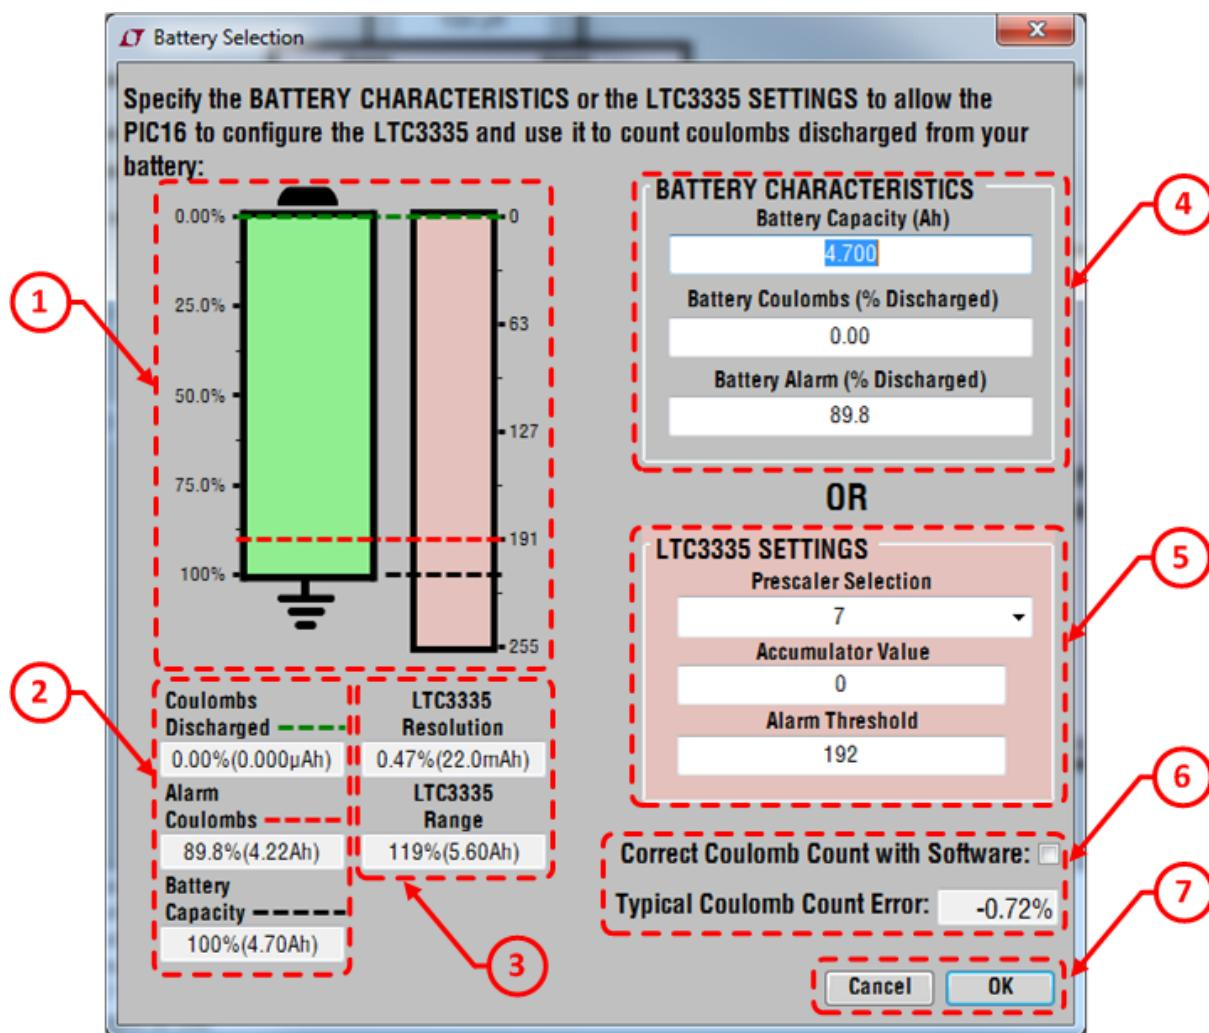

Figure 8. Battery Selection Window
5. Set PS1 to 5V. The DC2343A will see battery voltage and flash the green LED with a 1 second period. The GUI will then launch the window in Figure 8 to ask for a battery description. Typically the characteristics of an actual battery would be entered. For a quick demonstration of the LTC3335, however, enter these values to simulate a very small battery with power supply PS1:
The Battery Selection Window allows the user to specify the battery that they have connected to the DC2343A. This information is necessary for the GUI to properly configure the LTC3335, and interpret the values read from the IC. This window will automatically popup the first time that a battery is attached to the DC2343A. Note that none of the values in this window will be written to the LTC3335 until the OK button is pressed, allowing experimentation by the user to see the relationship between their battery characteristics and the LTC3335 settings. The features of this window are shown in Figure 8.